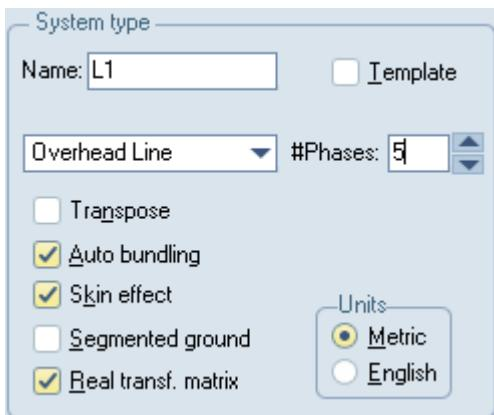

Fig. 5.25 - System type options for overhead lines.
**Rin**: Inner radius of the conductor. Only available if *Skin effect* check box is selected on the *Model* page (see in Fig. 5.25). If unselected, the *Rin* column is removed and a *React* column appears, where the user specifies the AC reactance of the line in ohm/unit length.
If *System type / Auto bundling* is checked on the *Model* page (see Fig. 5.25):